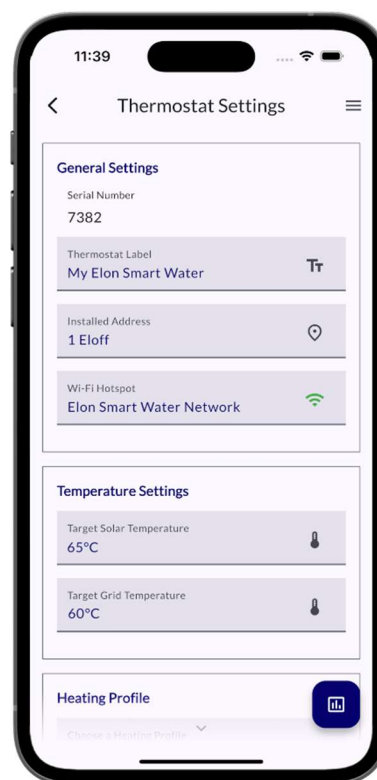

Figure A6 Heating settings
18. The app should take you back to the “**Thermostat Settings**” screen (**Figure A6**).